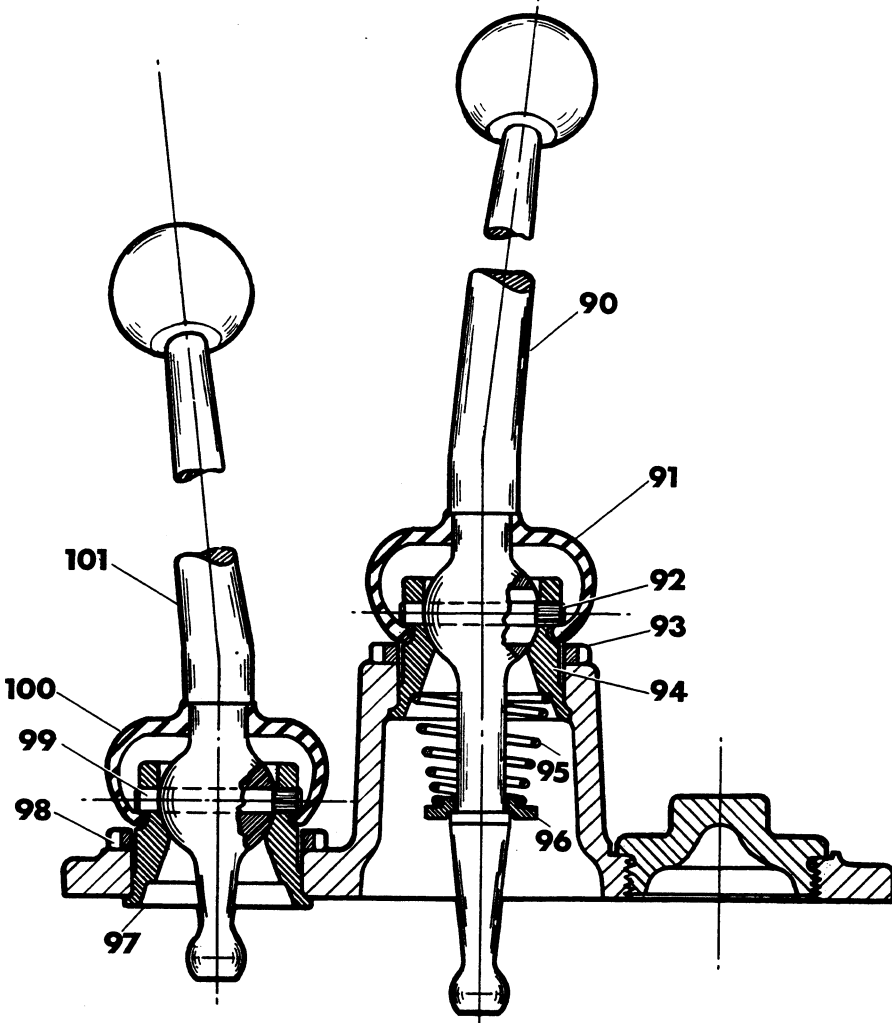

FIG. 18
2. Fig 18. Release the spring retaining seat (96) from the gear lever (90) and detach the seat (96) and spring (95).
3. Remove the gear lever rubber cover (91).
4. Unscrew the locking ring (93) securing the gear lever cup (94).
5. Drive out the pin (92) securing the gear lever (90) to the cup (94).
6. Lift out the gear lever (90).
7. Drive the cup (94) downwards out of the housing.
2. Fig 18. Remove the rubber cover (100).
3. Unscrew the locking (98) securing the lever cup (97).
4. Turn the lever (101) and cup (97) until the pin (99), securing the lever to the cup, can be removed.
5. Lift out the lever (101).
6. Drive the cup (97) downwards out of the housing.